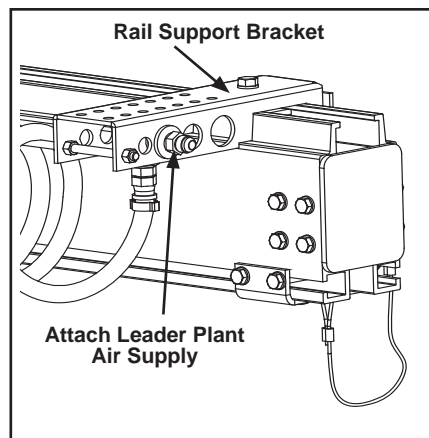

Figure 3-125
- Step 13. Attach leader plant air supply to rail support bracket at 90 degree fitting (supplied). See Figure 3-125. Use at least twelve (12) in (305 mm) of hose between bracket and plant hard pipe. Do not hard pipe. Install female swivel push on fittings with Oetiker clamp hose to end and attach male part of assembly.